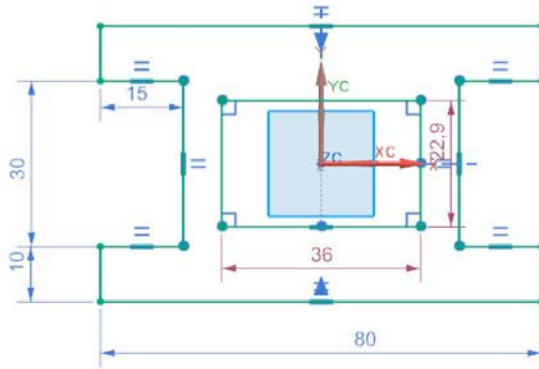

Figure 3-52 The sketch after drawing the inner loop and turning on the display of constraints
- Draw a rectangle inside the outer loop using the **Rectangle** tool, refer to Figure 3-52.
5. Move the cursor vertically upward and click to specify the third point; the rectangle is created, refer to Figure 3-52. Press ESC to exit the tool.